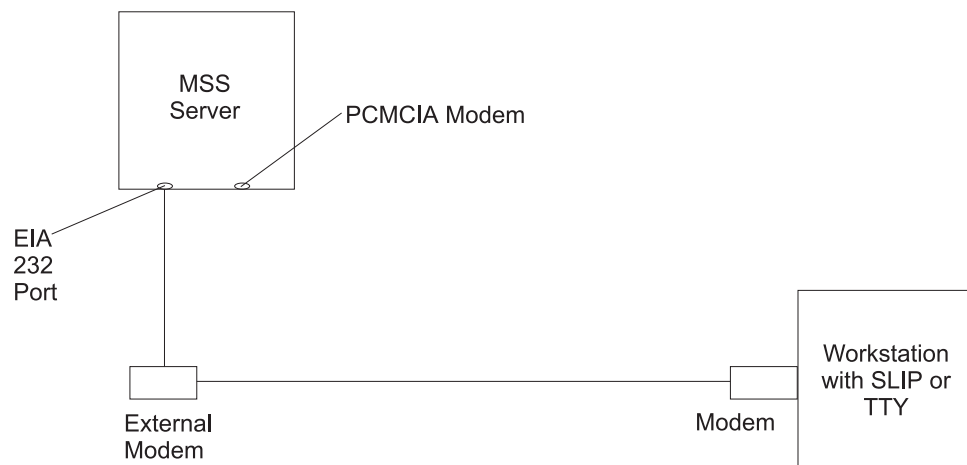

Figure 3-2. Remote Serial Connection to the EIA 232 Port
- A remote connection through a modem attached to the EIA 232 service port (see Figure 3-2 on page 3-2)